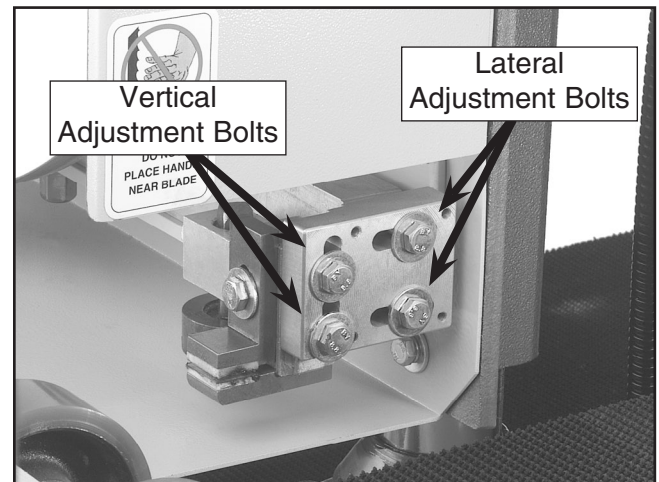

Figure 34. Lower guide block adjustment bolts.
4. Loosen the lateral adjustment bolts (shown in **Figure 34**).